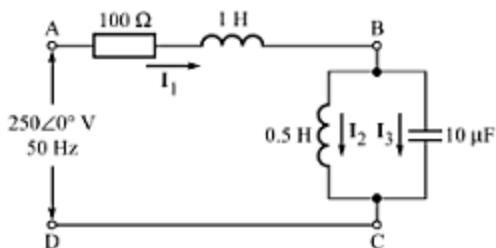

Fig. C-69
- C-115.** For the circuit shown in Fig. C-69 determine (a) the impedance, (b) the current  $I_1$ , (c) the current  $I_2$ ,